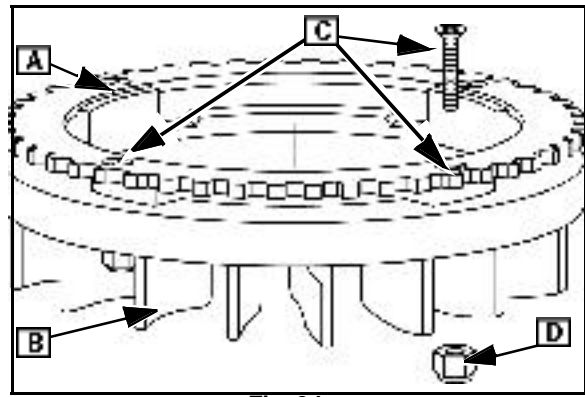

Fig. 34
1. Using a center punch, mark center of rivets holding ring gear ([A] Fig. 34) to flywheel (B).
3. Attach new gear to flywheel using four screws (C) and lock nuts (D) Fig. 34) provided with gear.